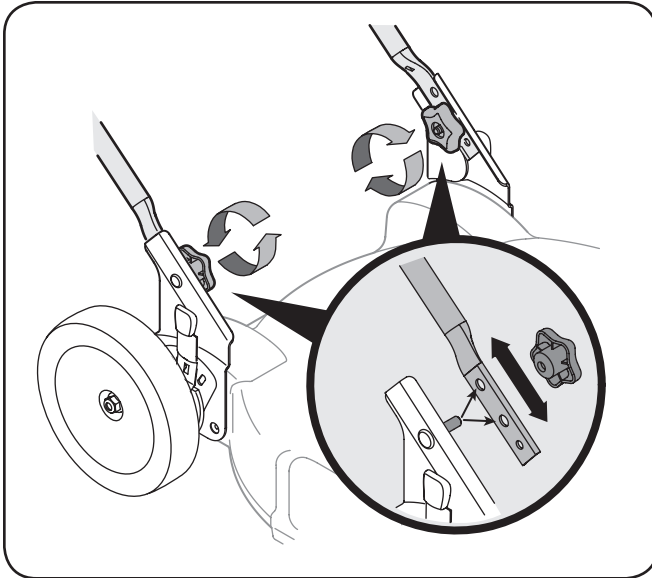

Figure 3-3
2. If satisfied with the height of the handle, tighten the star knobs at the ends of the lower handle shown in Fig. 3-3. For convenience of operation, you may adjust the handle height as follows:
- a. Remove the star knobs shown in Fig. 3-3 and remove the lower handle.